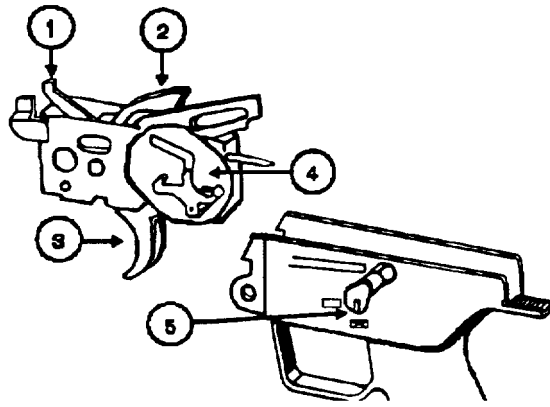

Figure 3-3. Disassembled Pistol Grip And Trigger Mechanism
a. Depress the release lever (1). Figure 3-3, to allow the hammer (2), to spring up into the firing position. Pull the trigger (3). and allow the hammer to snap forward.
b. Depress and hold the catch lever (4), Figure 3-3 on page 3-13, while inserting the left selector lever (5) through the left side of the pistol grip with the white indicator in the 6 o'clock (down) position. The right side selector lever has a spring-loaded lock. Reconnect the right side selector lever and squeeze into the lock position.
d. Engage the hammer (2) by hand. Depress the release lever (1) to allow the hammer to spring up into the firing position. Pull the trigger (3) and allow the hammer to snap forward.